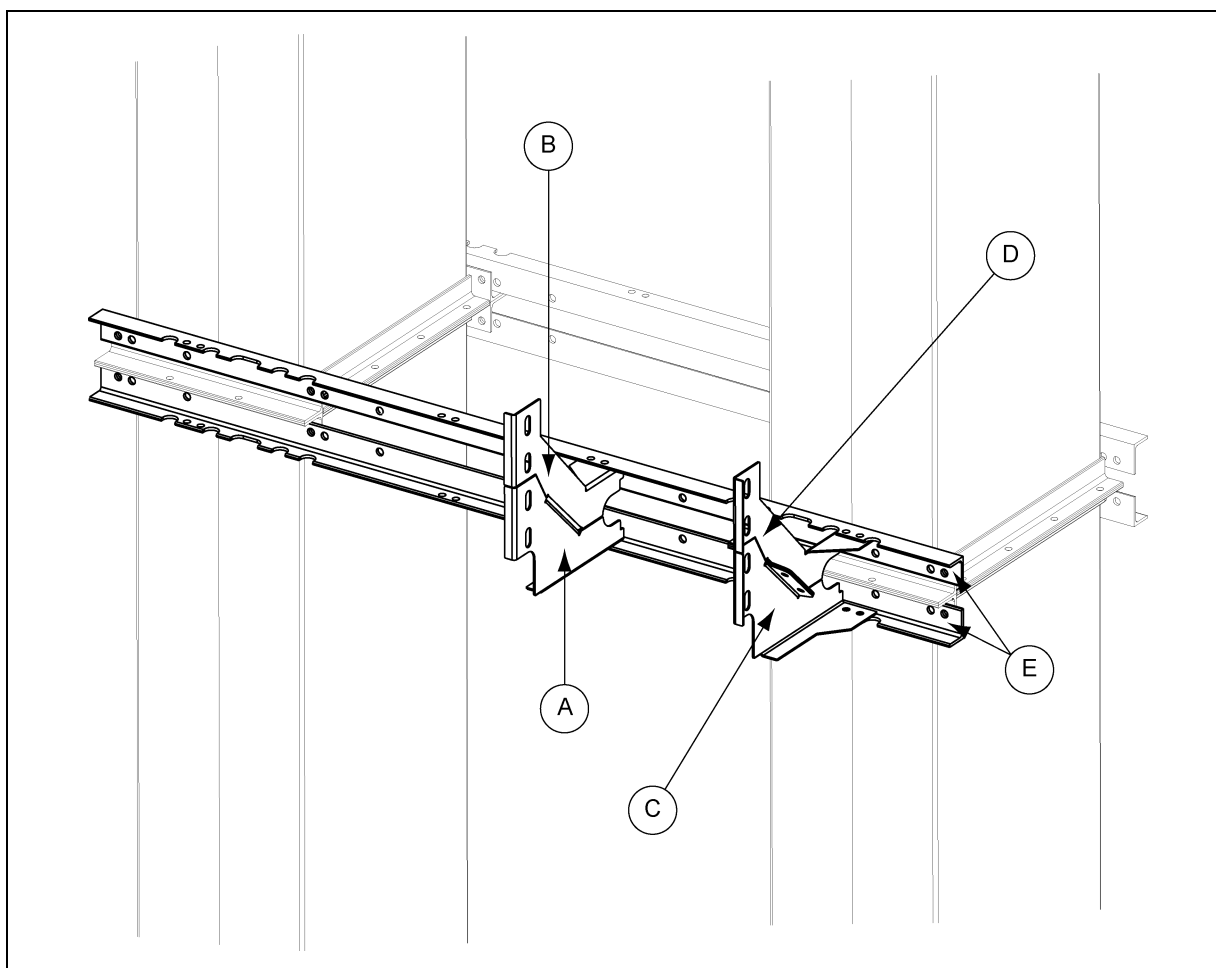

Figure 6J Ladder Support Bracket Parts
1. Attach ladder support brackets to tie angle using 3/8" x 1" hex bolts (S-7469) (G). Use the holes shown in Figure 6J for each size elevator.
2. Mount the upper right and upper left hand ladder support brackets (B and D) to the top tie angle (E) with 3/8" bolts.
3. Mount the lower right hand and lower left hand ladder support brackets (A and C) to the bottom tie angle (E) with 3/8" bolts. (See Figure 6J.)
4. Secure the flanges of the ladder brackets together with 3/8" x 1" hex bolts (S-7469) (G).